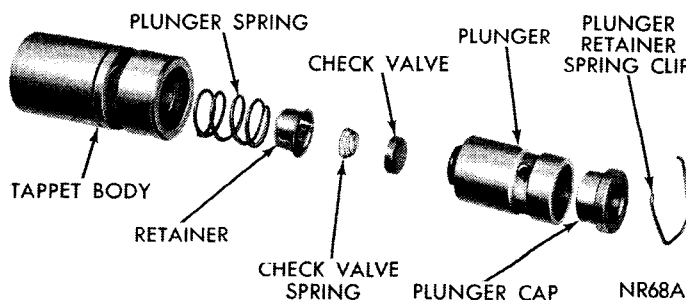

Fig. 16—Hydraulic Tappet (Disassembled View)
Disassembly (Fig. 16)
- (1) Clean all tappet parts in a solvent that will remove all varnish and carbon.
- (2) Replace tappets that are unfit for further service with new assemblies.
- (3) Assemble tappets, (Fig. 16).